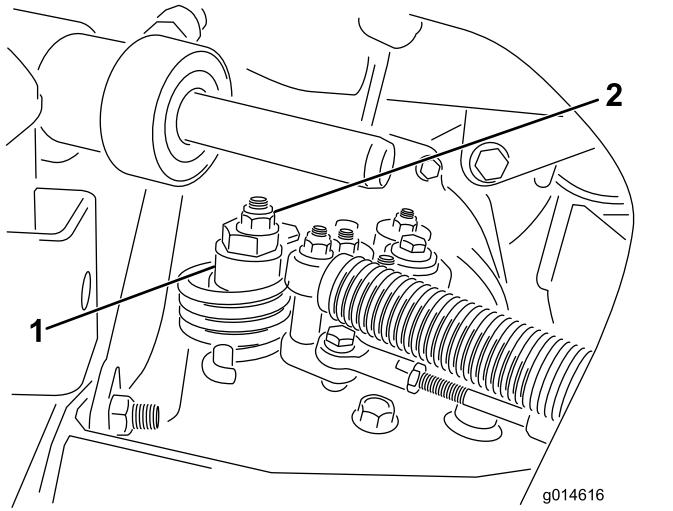

Figure 47
- A. Loosen the nut securing the eccentric to the top of the hydrostat (Figure 47).
C. Rotate the eccentric until creep does not occur in either direction. When the wheel stops rotating, tighten the nut locking the eccentric and the adjustment (Figure 47). Verify the adjustment with the throttle in the Slow and Fast position.